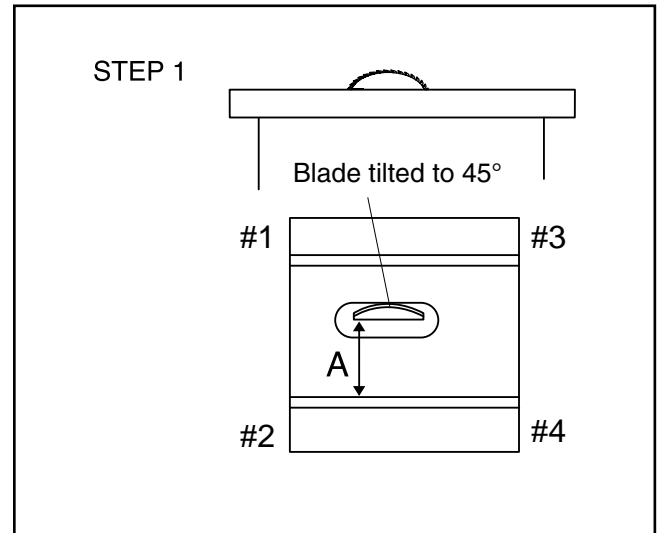

Figure 24.
10. Refer to **Figures 24 and 25**, for shim placement. If the distance of A is longer than B, shim(s) will need to be placed under corners #1 and #2. If the distance of B is longer than A, shim(s) will need to be placed under corners #3 and #4. Very thin shim stock works well, just make sure they are all the same thickness, and you put an equal number under each of the two corners.